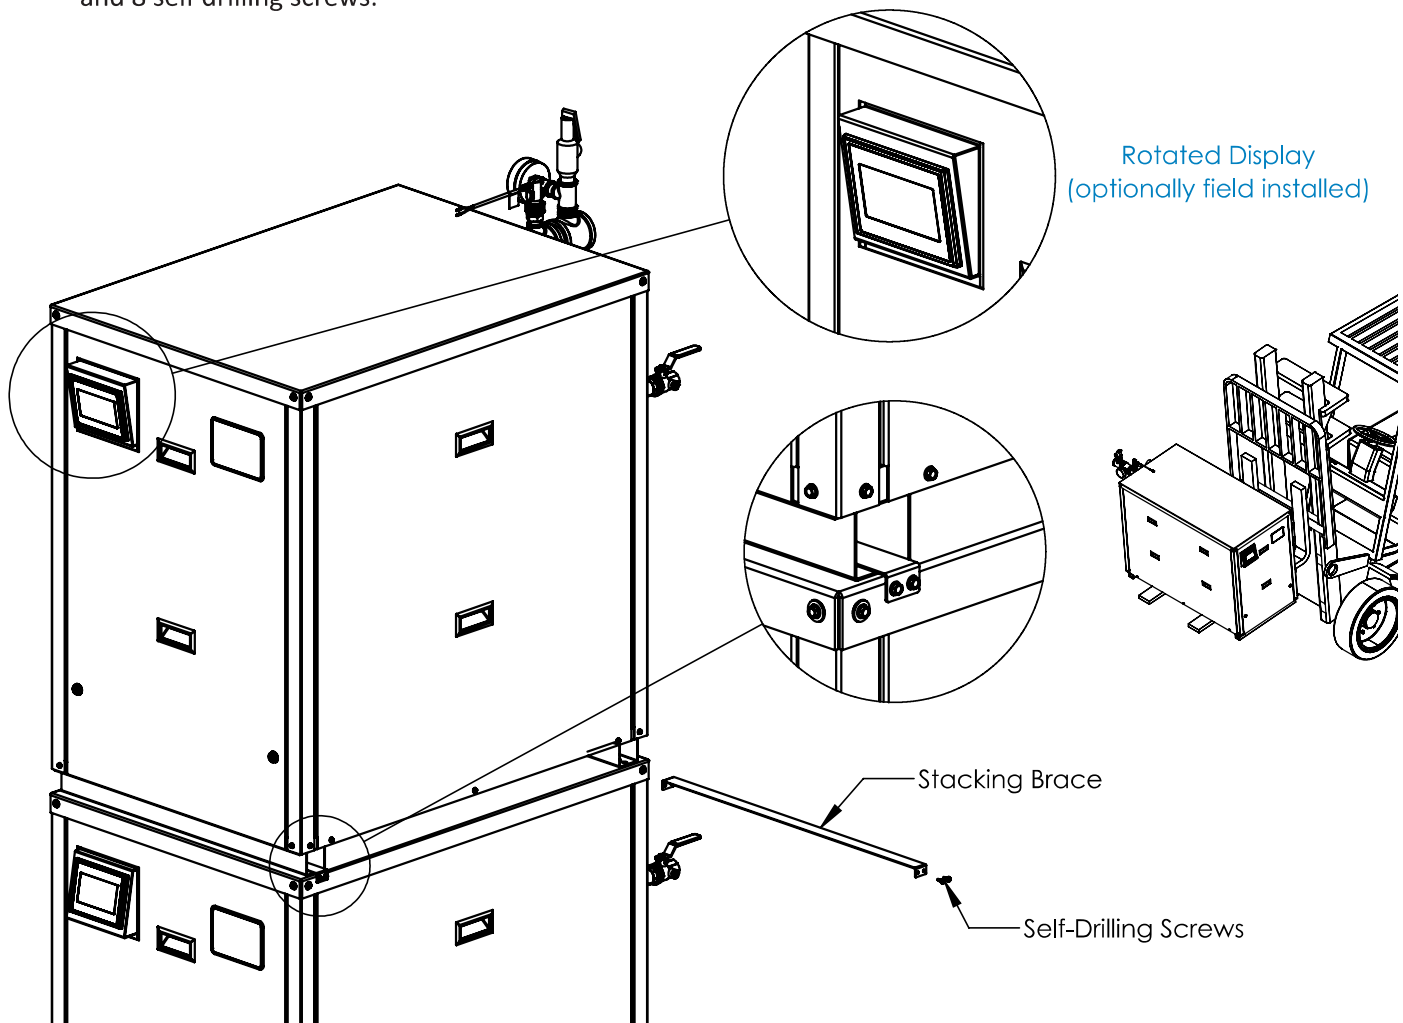

Figure 5: Citadel 400-1000L Stacking Brackets and Display Rotation
- b. Use the included screws to secure the braces as shown in Figure 5.